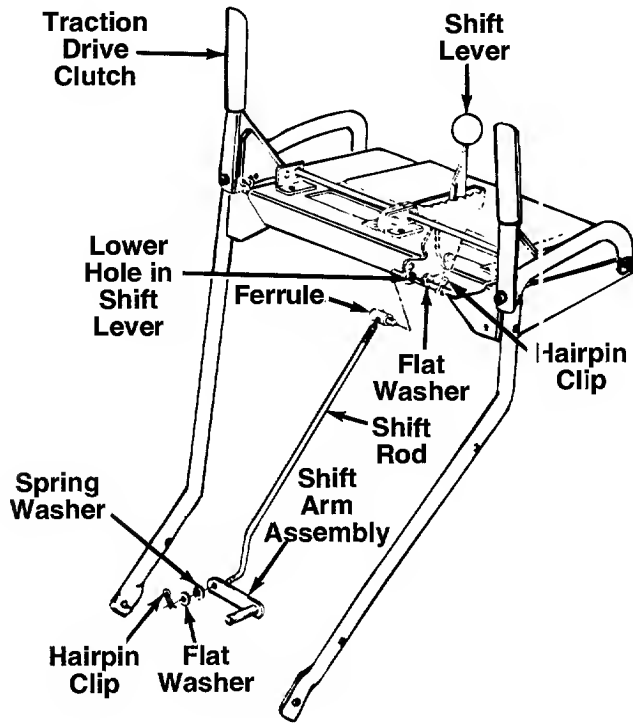

FIGURE 8.
- Insert the ferrule through the **lower** hole in the shift lever beneath the handle panel from the right side. Secure with flat washer and hairpin clip. See figure 8.
- Place the shift lever in the sixth (6) speed position (all the way forward).